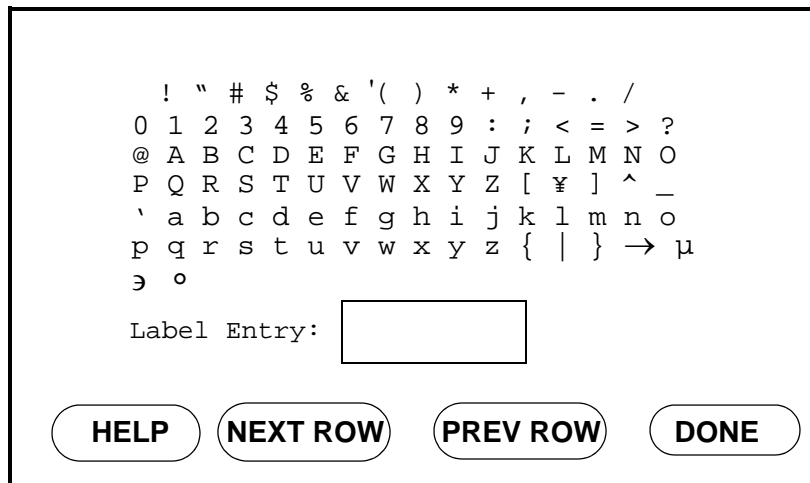

Figure 25: Label Entry Menu
2. Press the TAG menu key. The Label Entry Menu appears as shown in Figure 25. The screen displays a table of the character set available, an Edit Box and four menu options.